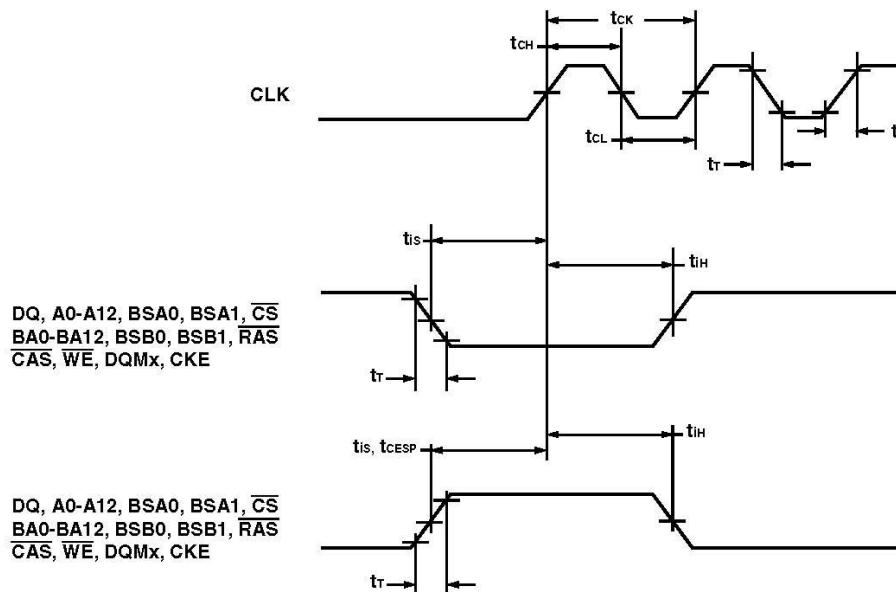

Figure 2: Input Attribute Parameters
* - See Figure 2 – LVTTL Load Circuit for load circuits.